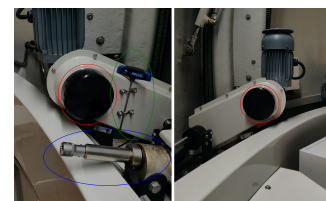
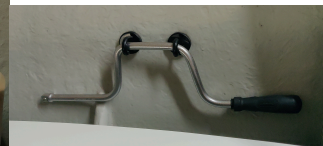

Fig. 3: Shutter mechanism - red: slipping clutches, green: Allen wrench, blue: socket for the
Fig. 5: Emergency crank handle
- **Remove the black protective cover** above the slipping clutches (red circles in Fig. 3) of the shutter drives
- **Take the Allen wrench** (green ellipse in Fig. 3) from its holder directly next to the left-hand slipping clutch
- **Insert the emergency crank** (Fig. 5, located on the left side of the dome slit) **into the socket** to the right of it (blue ellipse in Fig. 3).